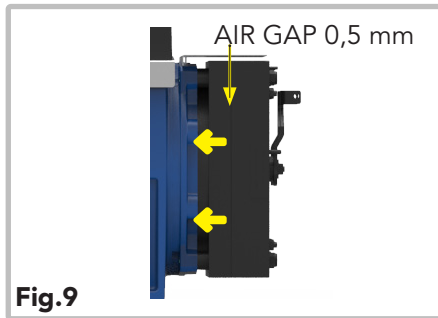

Fig.9
- **Not powered** (electromagnet not powered): the brake disc is clamped by the movable surfaces (yellow arrows on Fig. 9). In this condition the system does not move.